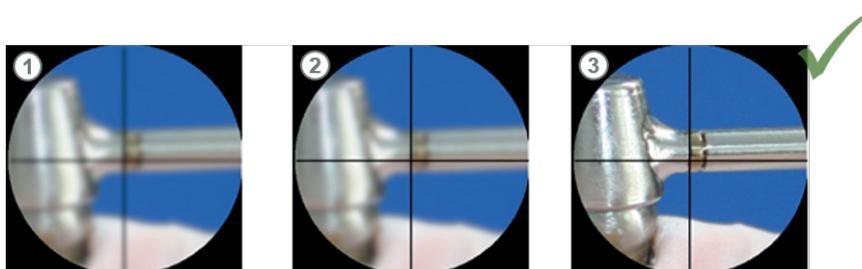

Figure 19: Adjust the microscope attachment
- ▶ Position a flat test workpiece (e.g., piece of sheet metal) under the laser objective. Set the height using a suitable lifting table so that the object is in focus with the dominant eye (see Figure 19 – on the right).